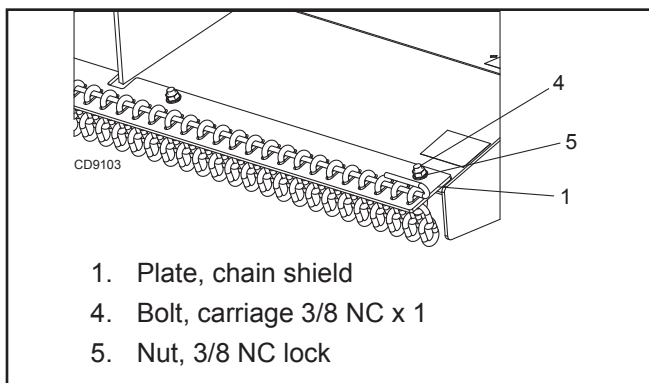

Figure 33. Chain Shielding Installed
1. Install chain shielding plate (1) on top rear edge of mower frame as shown in Figure 33.
2. Secure with carriage bolts (4) and flanged lock nuts (5).